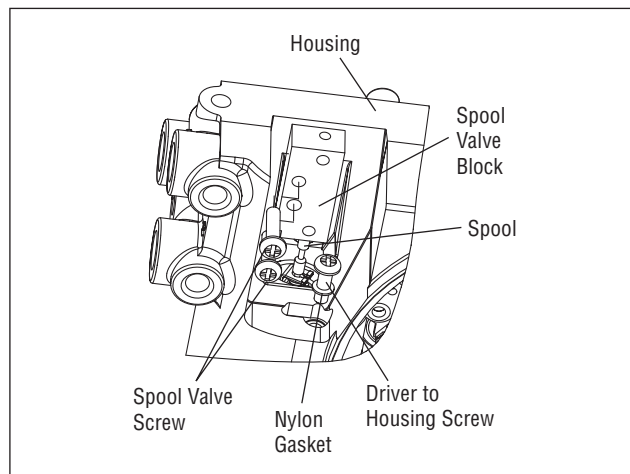

Figure 16: Spool and Block
5. Being careful not to lose the nylon washer, remove the Phillips-head screw that attaches the driver module to the main housing (Figure 16).
6. Remove the spool valve block by removing the two Phillips-head screws and carefully sliding the block off the spool (Figure 16).
19. Verify that the nylon gasket is in the counter bore in the driver module retaining screw hole as shown in Figure 16.
26. Carefully slide the block over the spool, using the machined surface of the housing base as a register (Figure 16). Slide the block toward the driver module until the two retaining holes line up with the threaded holes in the base.
27. Install two spool-valve screws and tighten securely with a Phillips screwdriver (see Figure 16).
9. Install two spool valve screws and tighten securely with a Phillips screwdriver (see Figure 16).